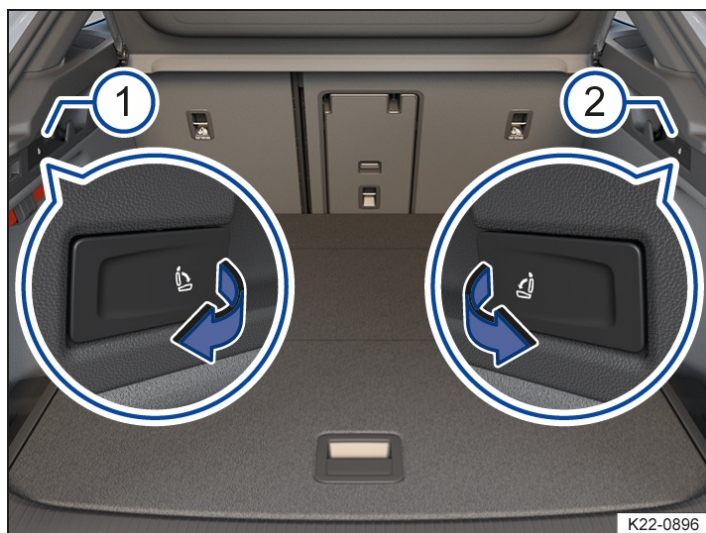

Fig. 2 In the luggage compartment: remote release lever for the left ① and the right ② parts of the rear seat backrest.
4. Pull the remote release lever for the left → Fig. 2 ① or the right → Fig. 2 ② rear seat backrest in the direction of the arrow.